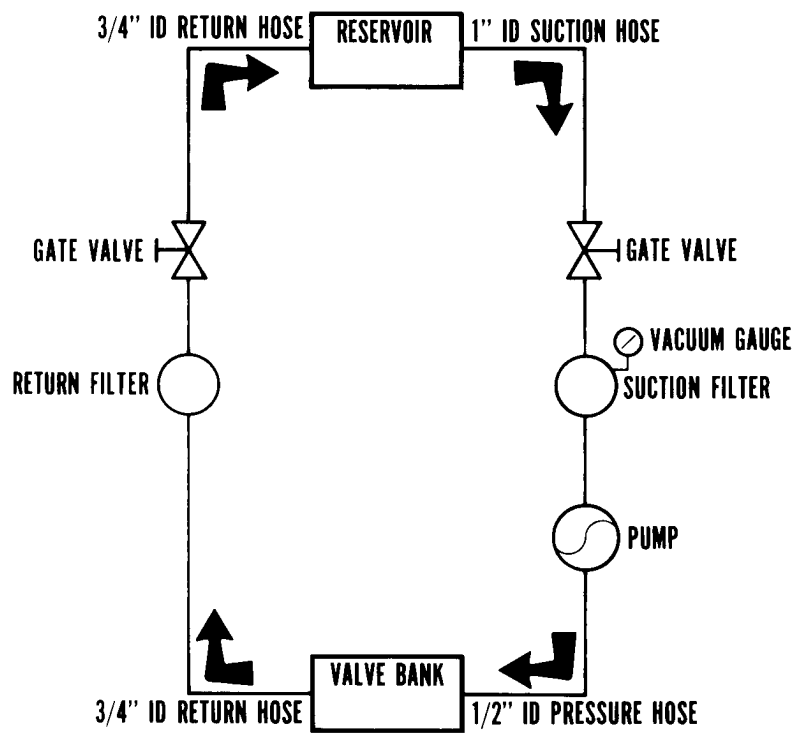

Figure C-4. Hydraulic Installation
1. Install the pressure hose between the pump and the crane control valve (Figure C-4).